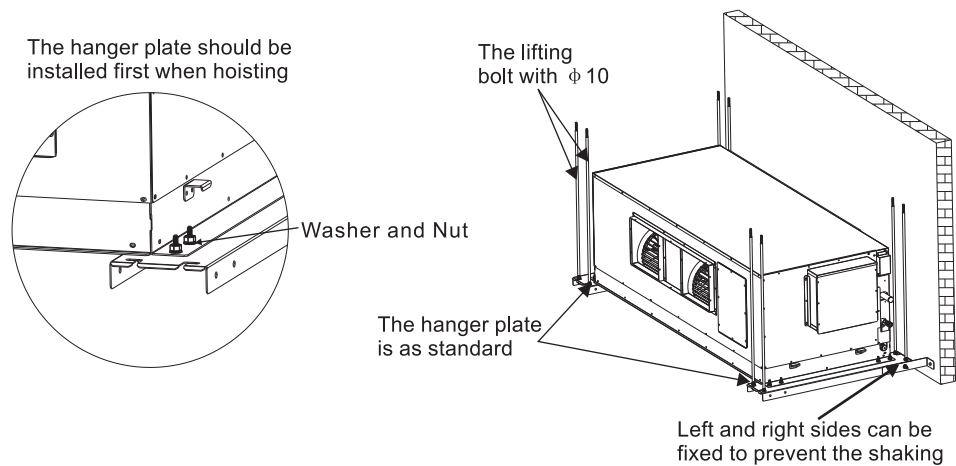

Figure 3.10
4) The high static pressure ducted unit 45.0kW~56.0kW and the fresh air 45.0kW~56.0kW need use hanger plate to install. The hanger plate is as standard. (The hanger plate should be installed when hoisting, and use the eight lifting bolt with  $\phi 10$ ). Refer to Figure 3.10.